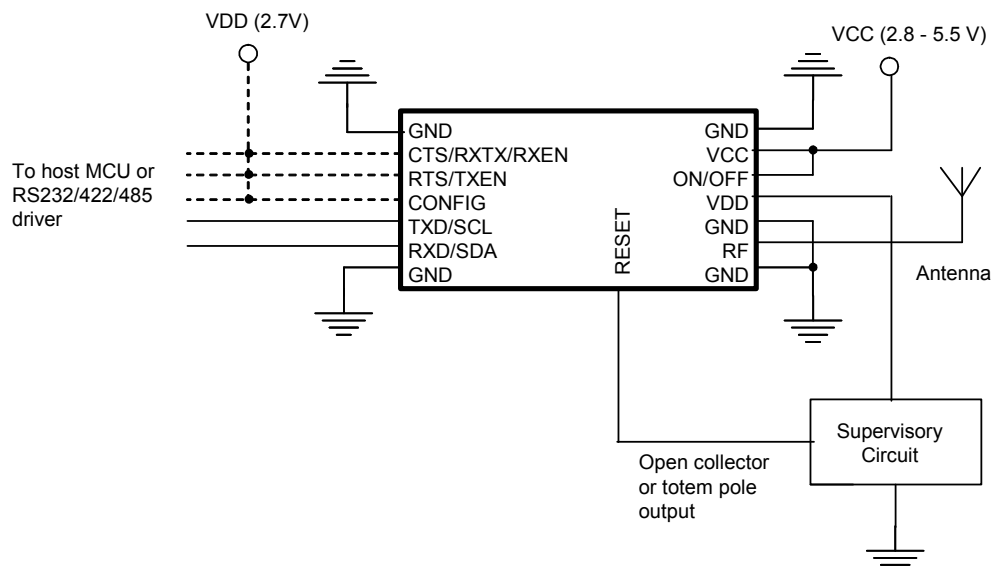

Figure 3. Reset circuit using supervisory circuit on VDD
- Use an external POR and brown-out supervisory circuit. The circuit should be connected between VDD and GND, controlling RESET. This solution will force RESET low as long as VDD is below the threshold voltage. The RESET has an internal pull-up resistor to VDD, thus an open-drain output supervisory circuit can be used. A threshold voltage between 2.3 and 2.6 V is recommended. See Figure 3. Supervisory circuits are suggested below.